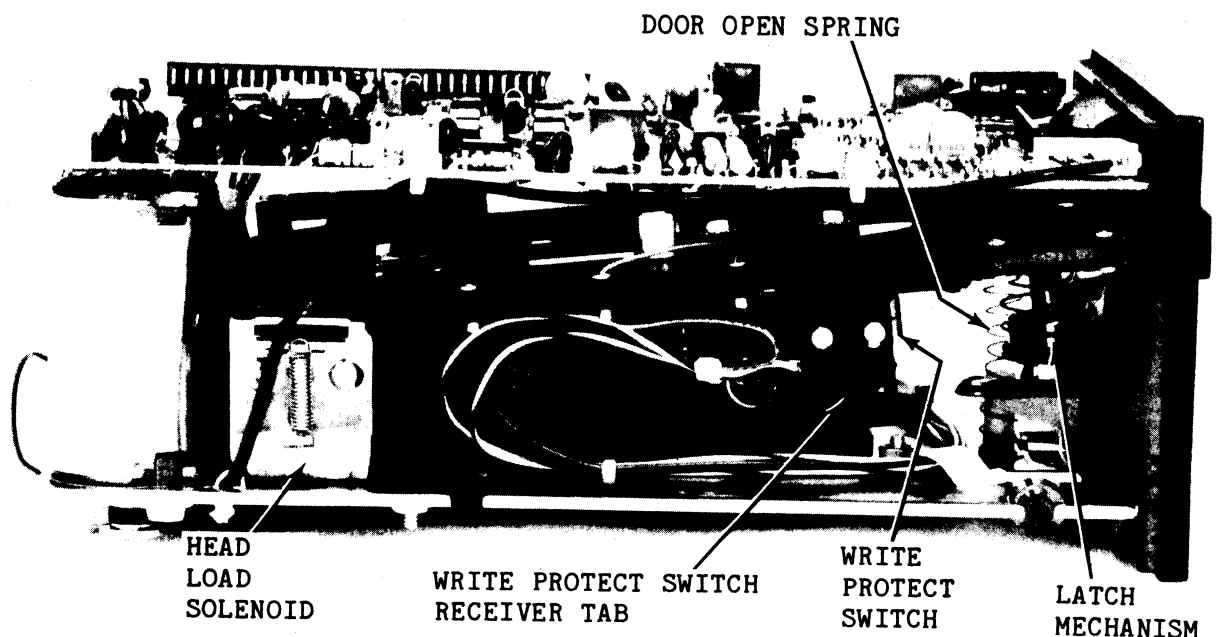

Figure 6-8. Head Load Solenoid, Write Protect Switch, and Latch Mechanism
- a. While holding the receiver tab and the write protect switch, remove the two switch mounting screws (see Figure 6-8). When the second screw is removed, the nut plate (on the inward side of the switch) will be freed.